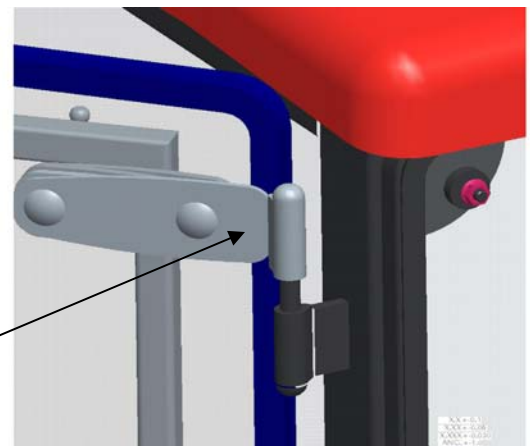

Figure 3
3. Install doors on cab by door pins with the hinge part of the door. Figure 3.